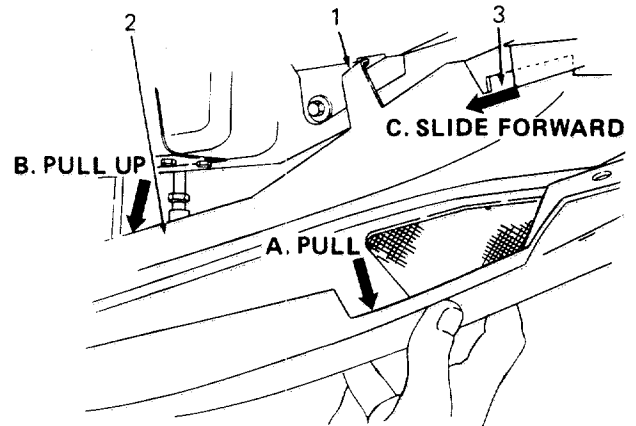

Figure 16
To remove lock tab, (A) gently pull front of side panel towards you and (B) pull up. Then (C) slide side panel forward to disengage dash panel lock. (Refer to Figure 16.)